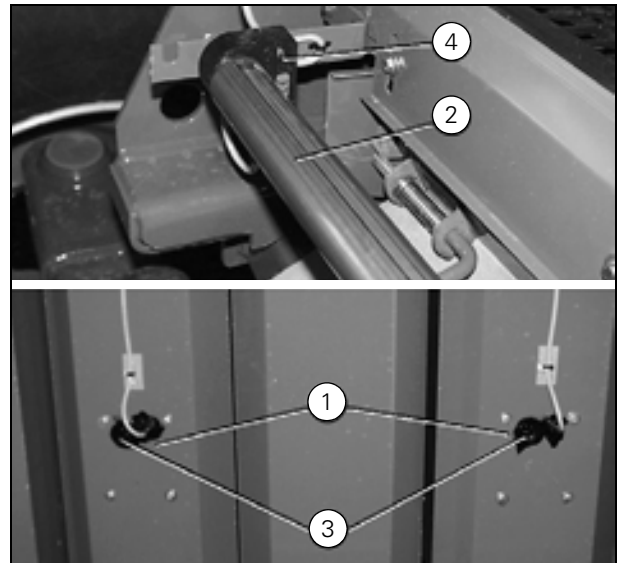
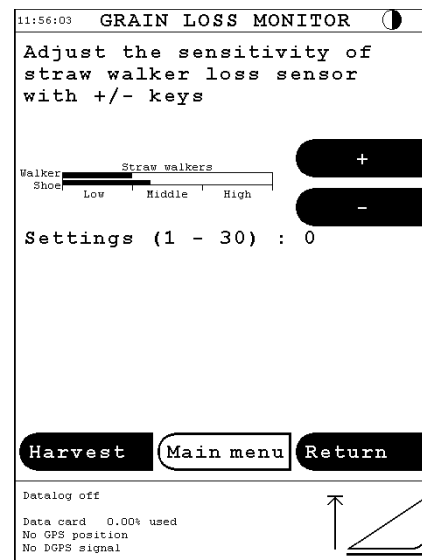
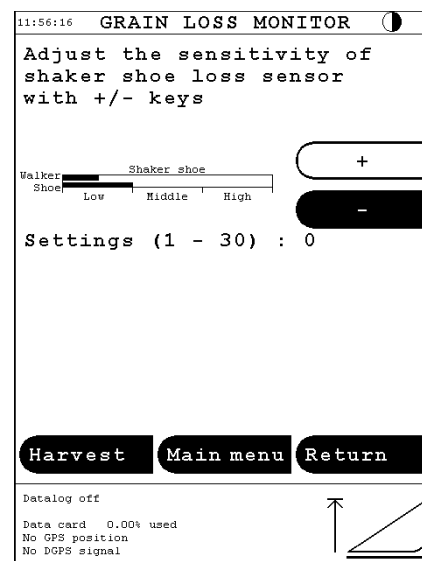

Fig. 98
Fig. 99
Fig. 100
(Fig. 98)
(Fig. 98), (Fig. 99) and (Fig. 100)
Prior to the adjustment of the grain loss monitor indication on the screen, the plate sensors (1) in the straw walkers and the tubular sensor (2) must be adjusted to the current crop. This is done with the switches (3) and (4), (Fig. 98), providing adjustment possibilities for small, normal and large grains, respectively.
The screen picture for adjustment of grain loss monitor can be called up from the menu "Coding | Grain loss monitor | Straw walkers" and the bar for straw walkers, (Fig. 99) can be adjusted into the medium range using the "+" or "-" key. This adjustment does not change the sensitivity of the loss sensors, but only the indication on the bar.
The same procedure can be used when adjusting the shaker shoe bar, (Fig. 100).